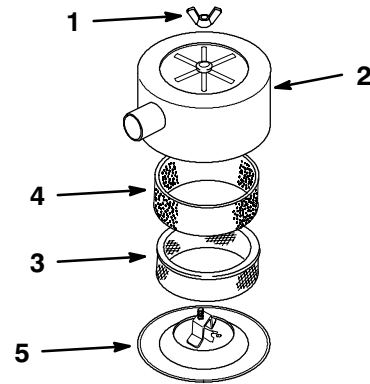

Figure 14
3. Clean around the air cleaner to prevent dirt from getting into the engine and causing damage. Unscrew the knob and remove the air cleaner cover (Fig. 14).
4. Carefully slide the foam element off the paper element (Fig. 14).
5. Unscrew the cover nut and remove the cover and paper element (Fig. 14).
1. Carefully slide the foam element onto the paper air cleaner element (Fig. 14).
2. Place the air cleaner assembly onto the air cleaner base (Fig. 14).
3. Install the air cleaner cover and secure with cover nut (Fig. 14).